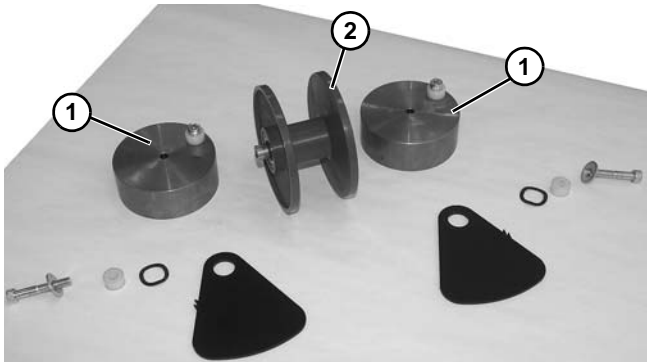

Figure 156
9. Remove two weights (**Figure 156, item 1**) from each side of pulley (**Figure 156, item 2**).